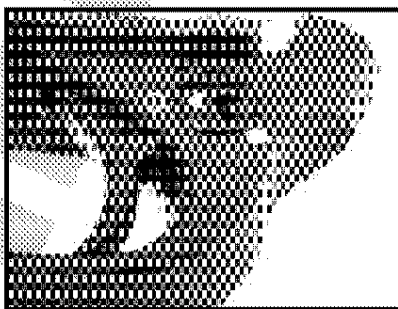

Figure 3 - ISS unlocked, safety in "On-Safe" Position
- Unlock the ISS System (**White** pointer will be lined up with the **Red** dot visible on the side of the housing - See Figure 3) using the ISS key.